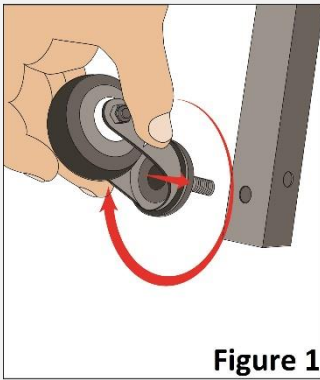

Figure 1
Step 1 – Take the bottom floor cross supports and screw in the caster wheels provided as shown in **FIGURE 1**. Do the same for both sides and front and back.